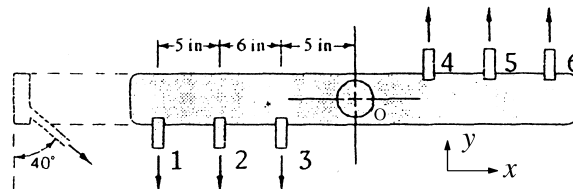

Fig. P3.124
3.124 A rotating dishwasher arm delivers at 60°C to six nozzles, as in Fig. P3.124. The total flow rate is 3.0 gal/min. Each nozzle has a diameter of $\frac{3}{16}$ in. If the nozzle flows are equal and friction is neglected, estimate the steady rotation rate of the arm, in r/min.